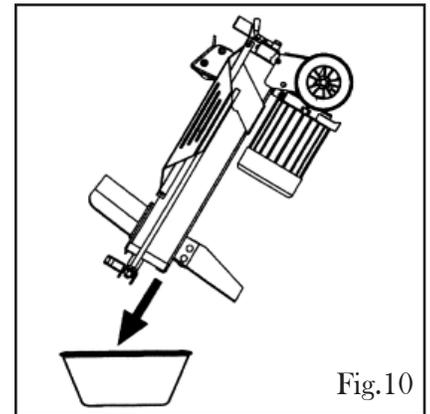

Fig.10
3. Raise the motor end of the log splitter to allow the fluid to drain into the pan (Fig. 10). Return the log splitter to horizontal position when the fluid is empty. **NOTE:** Responsibly dispose of the collected fluid at a public collection facility.